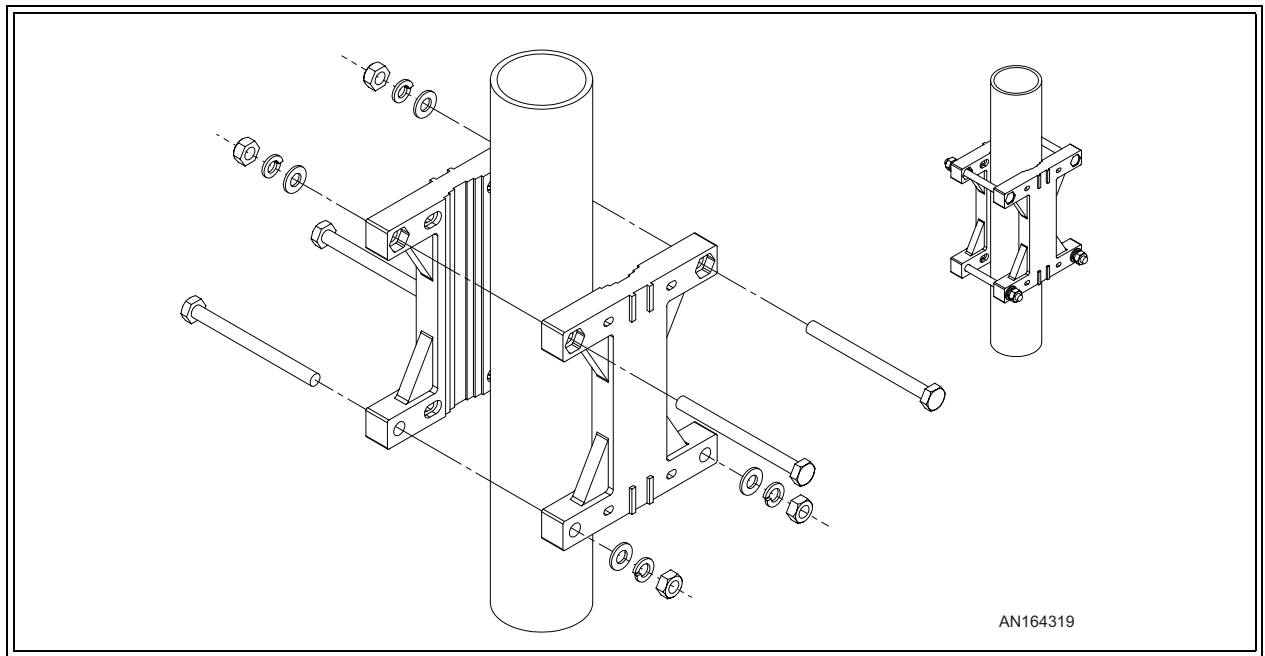

Figure 4-12 Adjustable Elevation Dual Aeras WaveLink Pole Mount Bracket Assembly
- A Assemble the pole mount brackets and associated nuts, bolts, and washers on the pole as shown in Figure 4-12. Finger tighten the four nuts. The pole mount bracket assembly should be able to pivot around the pole, allowing coarse horizontal alignment.